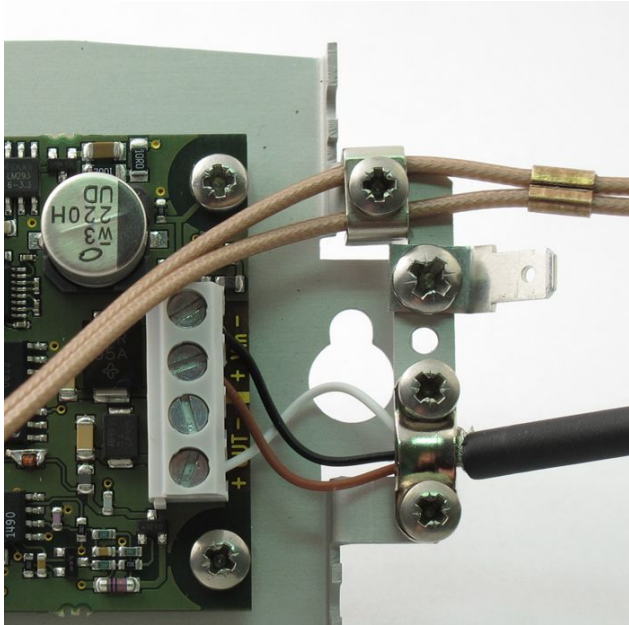

Figure 4 Connecting Cables
4. Attach the probe cable and the power/signal cable to the right side of the bracket using the screws and metal clips (included). See Figure 4 for the suggested placement.
Make sure that the shield of the power/signal cable makes good contact with the bracket. If your cable is unshielded, you can provide the earth connection by using a separate cable and the Abiko connector provided (visible in Figure 4).